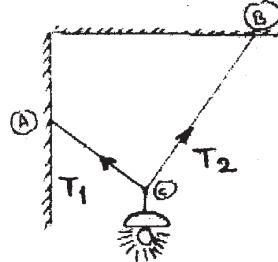

Fig.2.
**Q2)** a) An electric light fixture weighing 15 N hangs from point C, by two strings AC&BC. AC is inclined at  $60^\circ$  to the Horizontal & BC at  $45^\circ$  to the vertical as shown in Fig.2. Using Lami's theorem determine the forces in the strings AC & BC. [7]